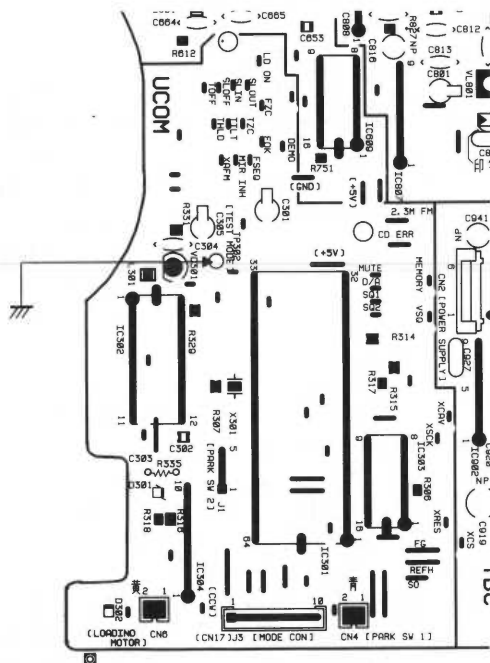

Fig. 8-1
2. Using an alligator clip, etc., short-circuit TP302 and GND on the Mother Board assembly (refer to Fig. 8-1).